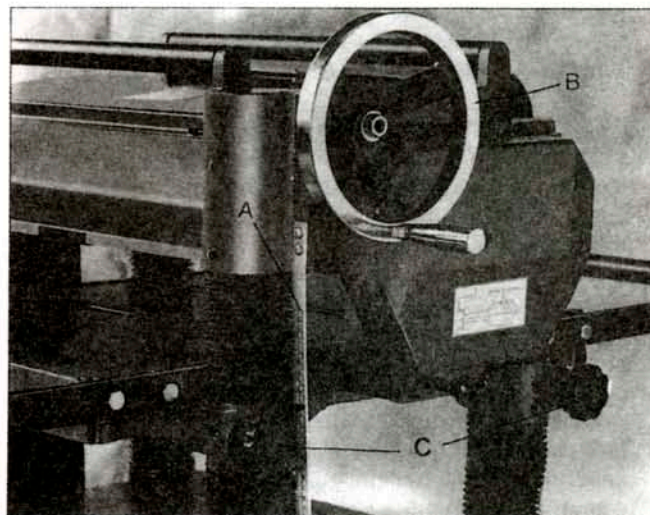

Fig. 18
The cutting depth scale is a combination inch/metric scale (A), Fig. 18, cutting range from 0 to 8" (204mm). The distance of upward or downward movement is controlled by Handwheel (B) Fig. 18 for one revolution is 0.059" (1.5mm). Before moving table upward or downward, loosen the lock nuts (C) as shown in Fig. 18. After choosing the proper position, tighten the lock nuts (C).